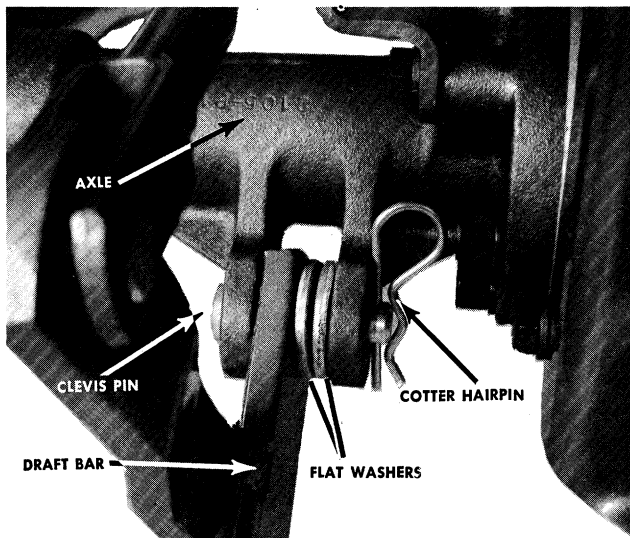

FIGURE 5. DRAFT BAR ASSEMBLY
- Step 2. Assemble the right hand draft bar assembly to the axle bracket using the longest clevis pin, two large washers and a cotter hairpin. See Figure 5.